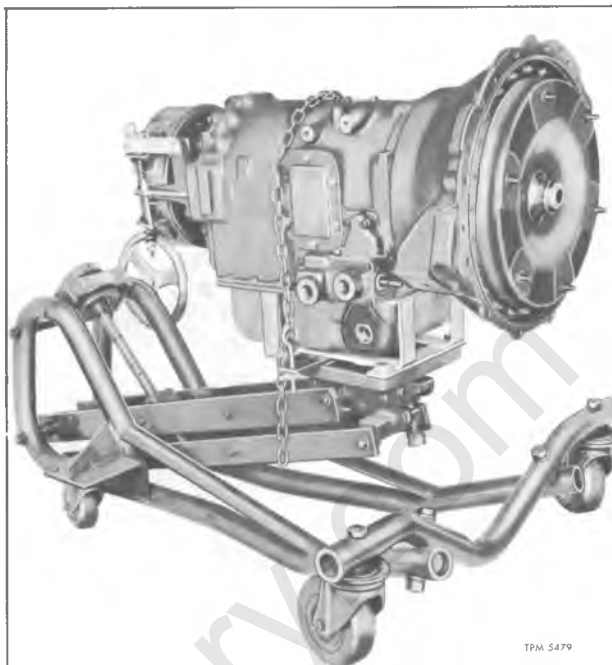

Figure 5—Transmission Mounted on Adjustable Dolly
12. Support the transmission with a 1,000-pound (minimum) transmission floor jack (see fig. 5). The jack must be positioned so transmission oil pan will not support the weight of the transmission. Fasten a safety chain over top of transmission and to both sides of the jack.
1. Raise vehicle sufficiently to allow installation of transmission. With transmission assembly properly mounted on transmission jack as shown in figure 5, move transmission into position aligning converter housing with flywheel housing. Check for and clean away any foreign material in flywheel